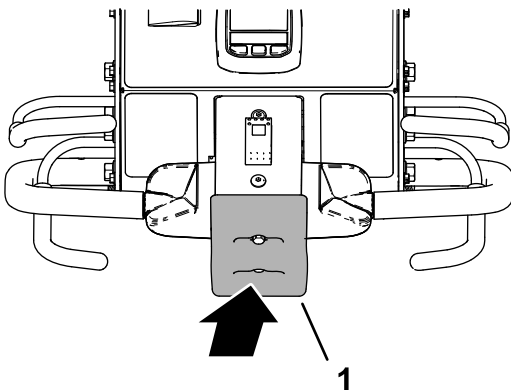

Figure 85
**Important:** To immediately stop the machine press the bump-stop switch (Figure 85).